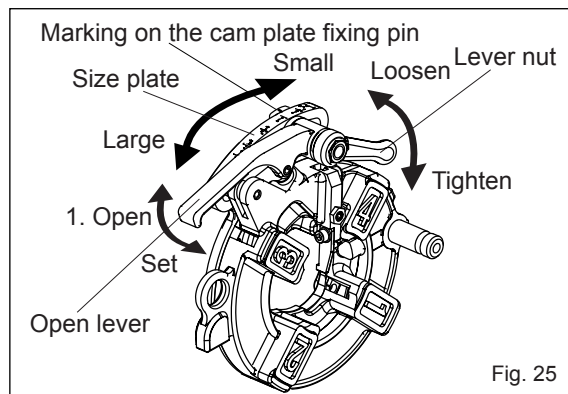

Fig. 25
- Loosen the lever nut on the die head and match the marking on the cam plate fixing pin with the pipe size on the size plate; then retighten the lever nut. (Fig. 25)
- Care when the dies come into contact with the pipe (Fig. 25)